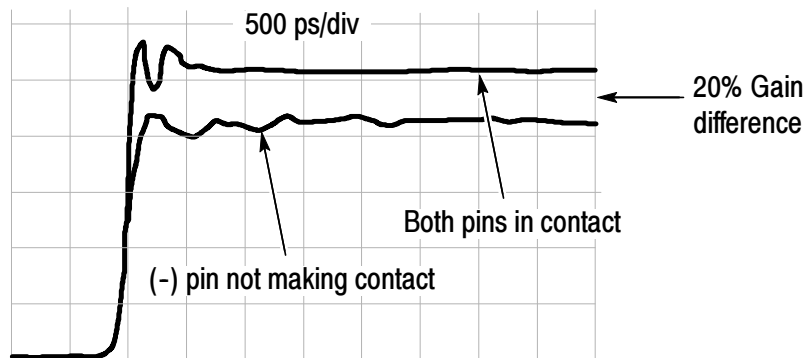

Figure 22: Verifying both probe pins are contacting the DM test points
12. Using the probe positioner, probe the DM test points on the probe calibration fixture. Compare your display to Figure 22 to verify that you have a valid connection with both pins.